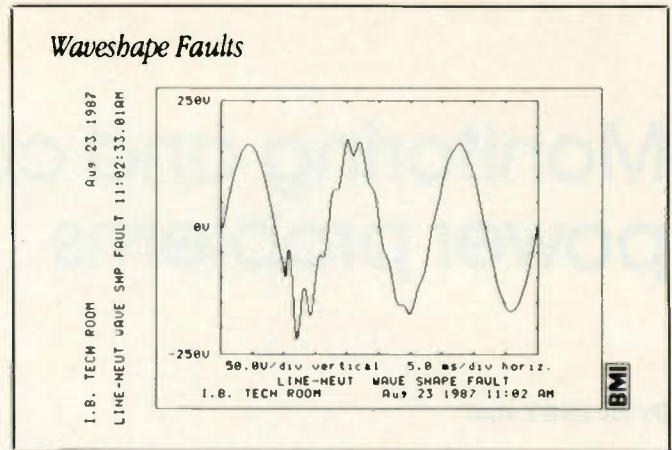

Figure 4.
3. Waveshape faults may be caused when power is being switched from one source to another, such as from standby to on-line power, for example. See Figure 4.